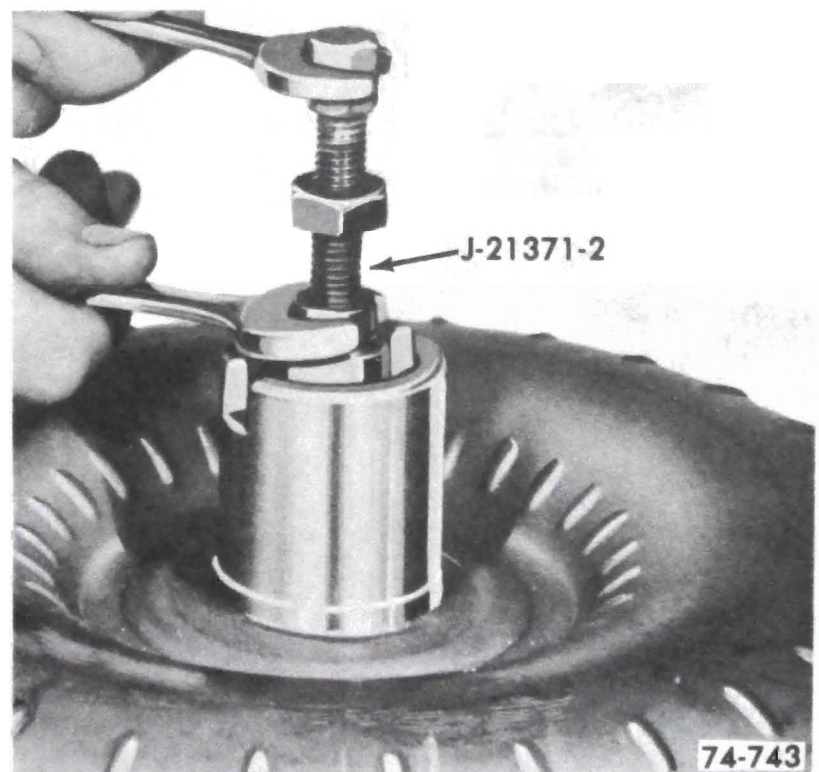

Figure 76-238
- a. Install Tool J-21371-2 and tighten brass nut. See Figure 76-238.